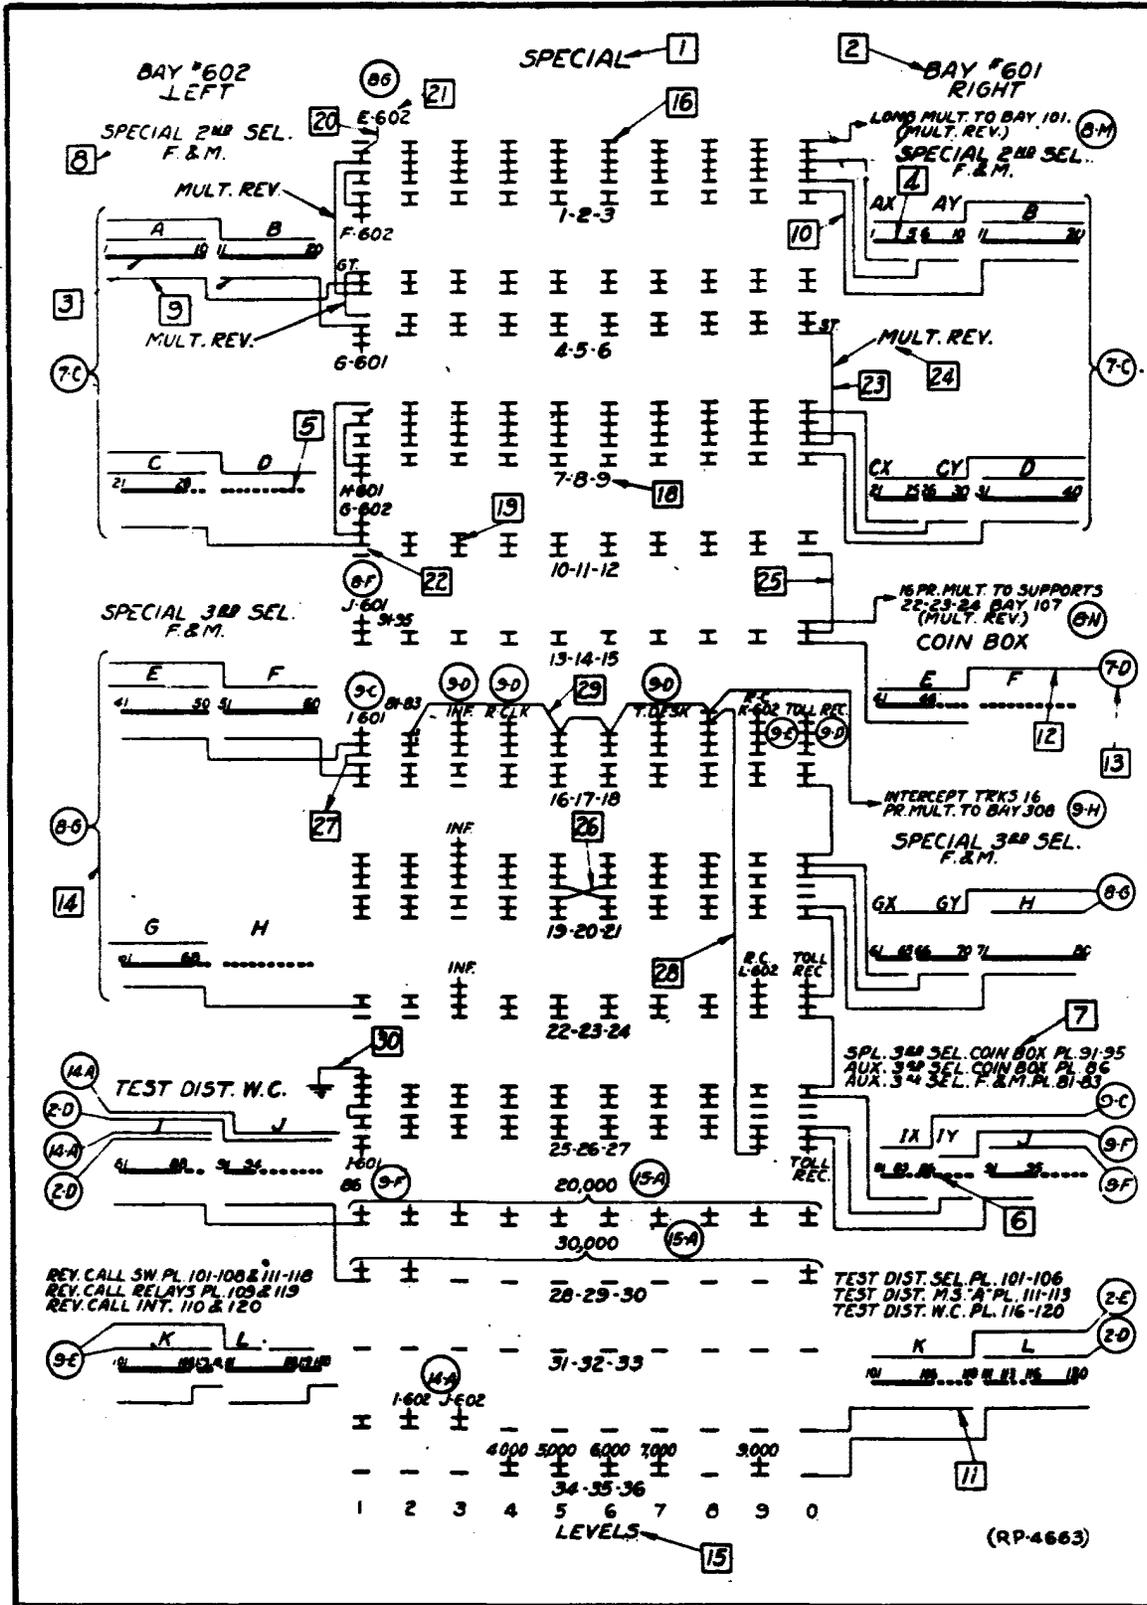
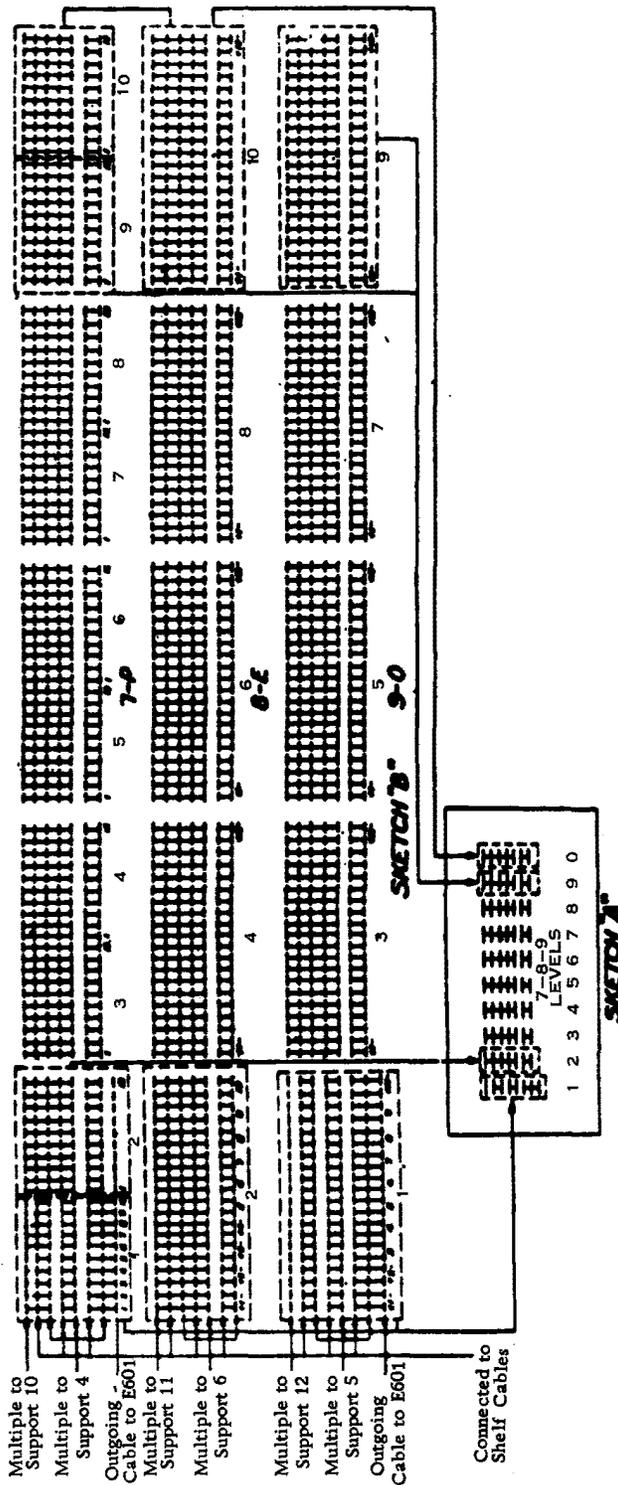

FIG. 1 TYPICAL SELECTOR TERMINAL ASSEMBLY DRAWING
FIG. 2 DETAIL VIEW OF SELECTOR TERMINAL ASSEMBLY
2.03 On the sample terminal assembly drawing, Figure 1, (1) indicates that the switches are all special selectors. However, if they were any other type, as 1st, 2nd, 3rd, or 4th, this would be shown as such, in place of the word "Special." Each board is divided into two bays, each bay having a certain number and designated as right or left, as at (2). In general the different types of selector bays number as follows:
2.08 The terminal assembly located at one end of the board and extending from bay to bay, is made up of 36 groups of terminal strips mounted on horizontal iron supports. Usually the entire unit is called the "Terminal Assembly" and the terminal strips mounted on one support called a "support." The terminal assembly is graphically represented on the terminal assembly drawing by 10 vertical rows of short heavy horizontal lines which number 1 to 0 from left to right as shown at (15). Sketch A of Figure 2 shows the portion of the terminal assembly drawing for supports 7, 8, and 9 as indicated at (18). Figure 2, Sketch B, is a development of this portion of the terminal assembly drawing, i.e., it shows the actual number of terminals represented by Sketch A of the same figure. It will be seen by referring to Figure 2, Sketch A, that the portion of Figure 1 shown in this figure represents three supports numbered 7, 8, and 9 from the top down. Number 7, or the top support of the three, is for the private lines of all levels. The second support (No. 8) is for the positive and negative lines of the even levels, the third support (No. 9) being for the positive and negative lines of the odd levels. Figure 2 shows that the first vertical row of short horizontal lines represents the first one-half section (10 terminals) on each of the terminal strips on support number 7 and the first section (20 terminals) of all strips on the odd support. The second vertical row of
2.13 When one level is multiplied with any other level on another support as at (28), the installer usually makes the form or uses a cable made similar to the up and down multiple. This is also true when more than one level (but not all ten) are multiplied with levels of other supports. In the case shown in Figure 1, one six pair cable could be used between level 8 support 16, and level 9 support 25. An 11 pair cable would be used between level 8 support 18, and level 19 support 27. These cables connect level 9 of the switches 86, 91, 92, 93, 94 and 95 of the IJ shelf bay 601 to the 8th level of the switches 41-50 and 51-60 of the EF shelf bay 602, which in turn are connected to an intercepting trunk multiple to bay 308 through cable run 9-H. This level 8 is also multiplied to levels 2, 5, and 6 of the same terminal strip by a special form made by the installer as shown at (29).